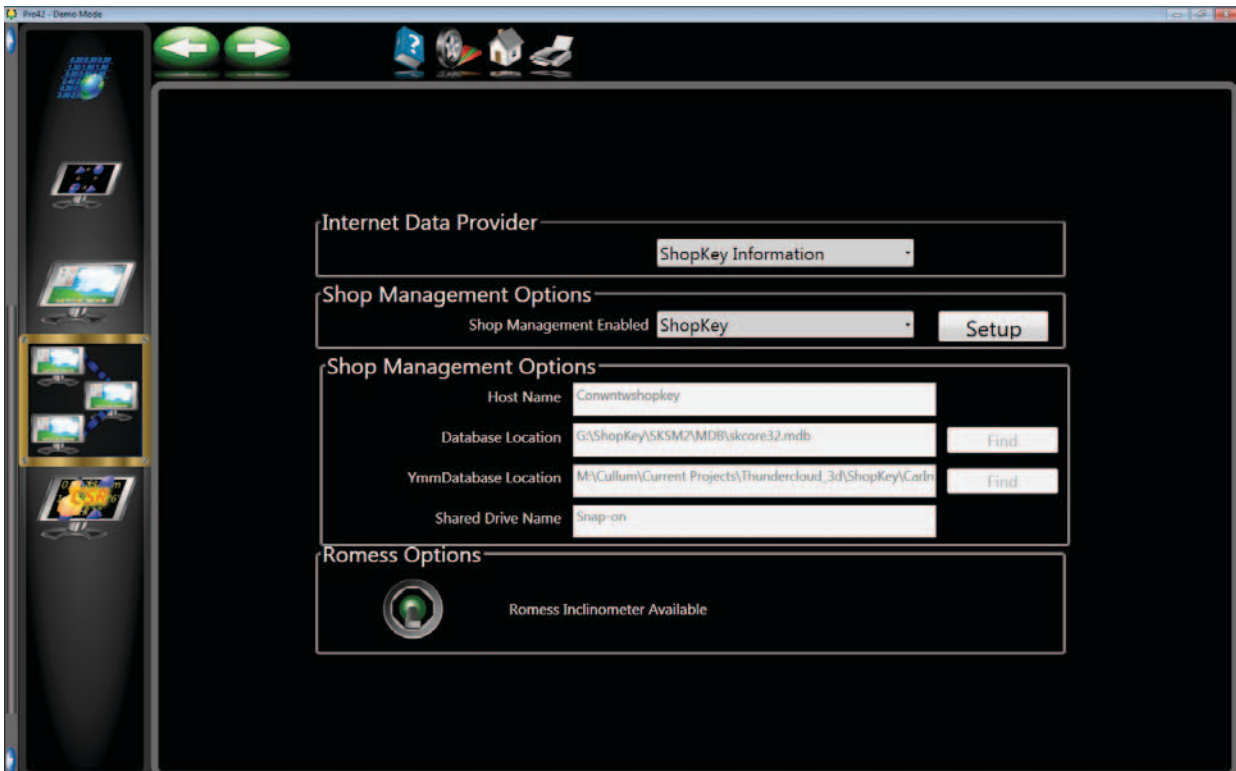

Figure 1
4. From Preferences, scroll down to “Connectivity Options” and select. The screen shown in Figure 1 will appear.
8. Next in the same selection area select “Find” to locate the Database Location for ShopKey. The file you are looking for is named “skcore32.mdb”. See the sample in Figure 1.
9. Next click Find to locate the “YmmDatabase Location”. The file you are looking for is named “car32.mdb”. Make sure the screen resembles that shown in Figure 1.
10. Next, enter the share name given to the drive and folder on the ShopKey server for the location of the ShopKey database. For example, if a folder and share named “Snap-on” on a server name “Conwntwshopkey” was to be mapped, the Host and Shared Drive Name entries would contain that information as shown in Figure 1.